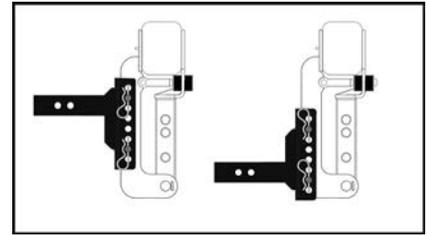

Figure 9: XR channel hitch can be used in the raised or dropped position.
•Insert the XR channel hitch into the hitch box and install 5/8" pin and clip. the XR channel hitch may be used in either the up or down position (see Figure 9).